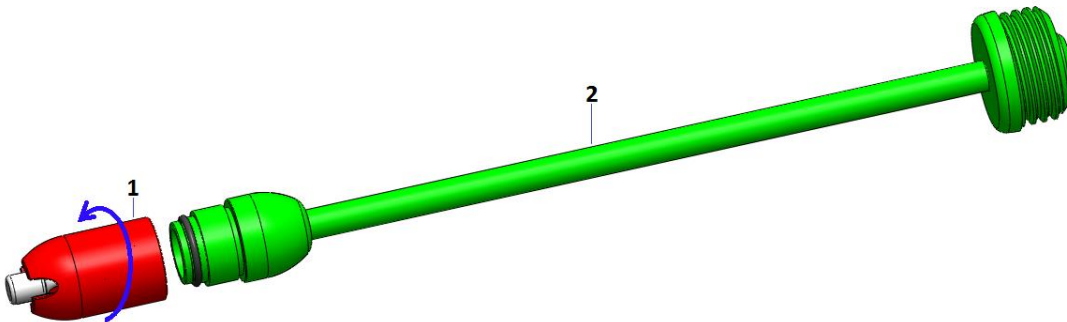
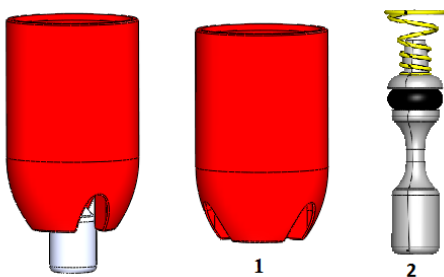

Figure 8
Figure 9
In order to separate the valve seat (1) and the pipe (2) in Figure 8, turn the valve counterclockwise. Be careful as the Valve Piston will easily fall out (Figure 9).
The valve is made of two main parts, see Figure 9: Valve Seat (1) and Valve Piston (2)